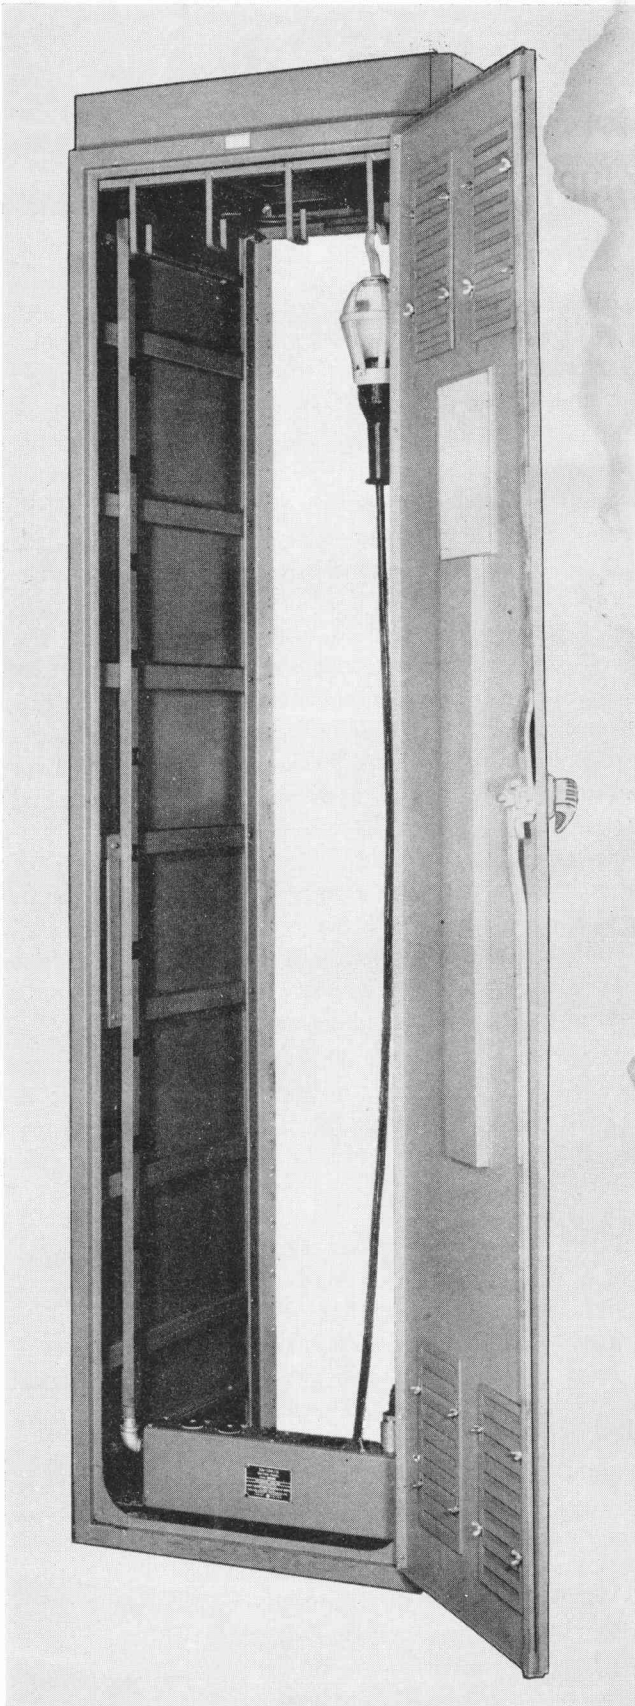

Figure 1-2. Cabinet, AN Type CY-597/G, Rear View
(1) **CABINET AN TYPE CY-597/G** (Figure 1-2).—Cabinet AN Type CY-597/G is of steel construction and strengthened throughout by an arrangement of supporting cross members and corner angle